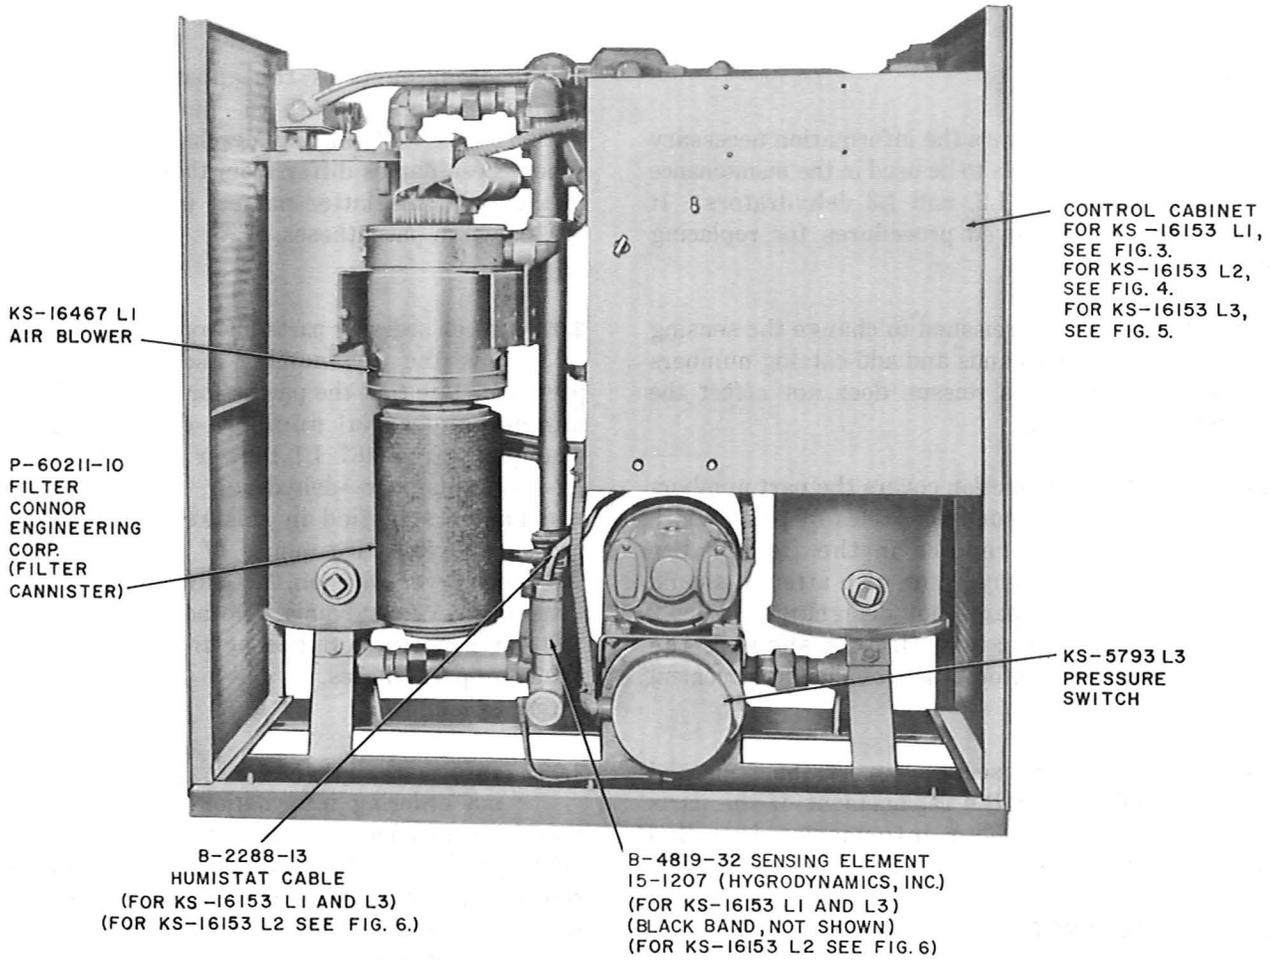

Fig. 1—KS-16153 L1, L2, and L3 Dehydrator (Front View)
1.02 This section is reissued to change the sensing element color bands and add catalog numbers to Fig. 1 and 6. This reissue does not affect the Equipment Test List.
2.01 Fig. 1 through 6, included in this part, show the replaceable parts in their proper relation
Note: ♦When replacing the sensing elements, make sure to replace the elements with the correct color band as shown in Fig. 1 and 6.♦